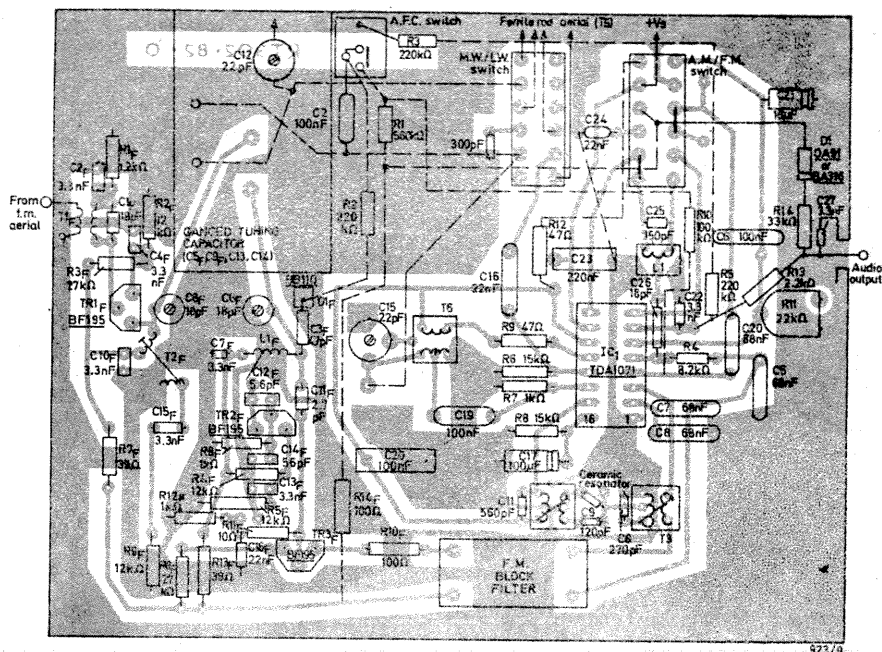

Fig.9 — Prototype printed-wiring board layout
A suggested printed-wiring board layout is shown in Fig.9. Although the layout is not critical, care must be taken to ensure that the source impedance of the differential amplifier of the IC is very low ($<50\Omega$) at 20MHz. If this is not done, oscillation at this frequency may occur.
*These components form part of the ganged tuning capacitor (see Fig.9).